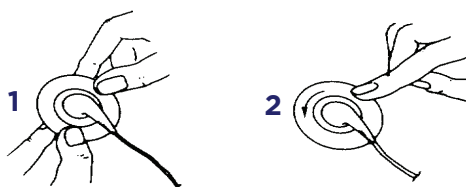

Figure 3-1 Electrode application
- Always attach the electrode to its leadwire before applying the electrode to the patient (refer to **Figure 3-1**). Do not apply pressure directly over the electrode's gel column.